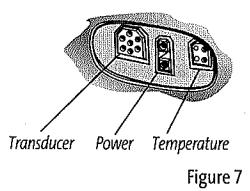

Figure 7
1. Matching the cable plugs to the shape and orientation of the sockets, insert the transducer and power cables into the correct sockets on the control head (Figure 7).